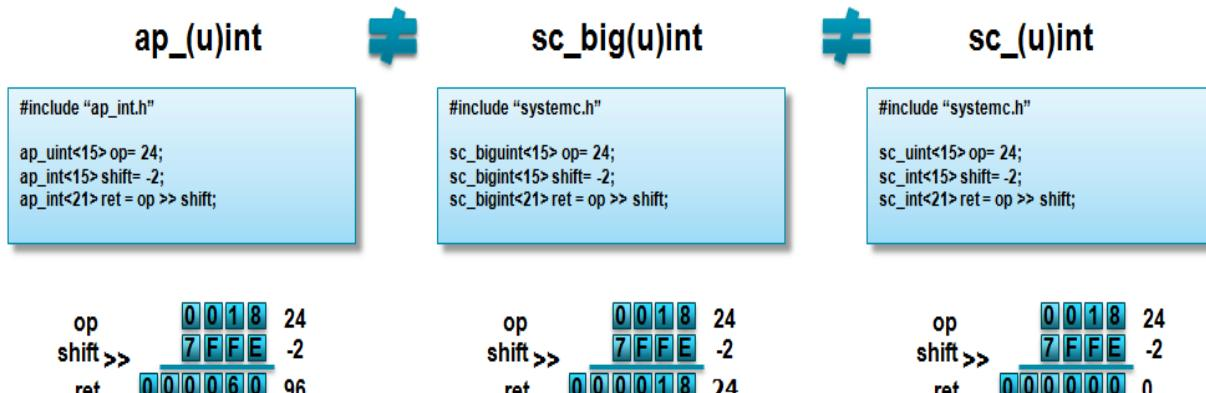

Figure 3-13: Negative Shift Differences
- The SystemC types `sc_[u]int` and `sc_bignum` both have different behaviors in this case. Figure 3-13 shows an example of this operation for both Vivado HLS and SystemC types.